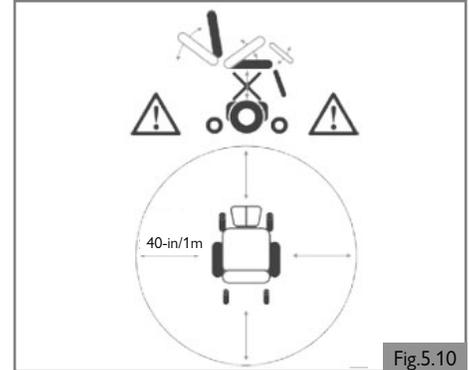

Fig.5.10
4. As with all moving parts be careful not to trap your fingers. (Fig. 5.10)